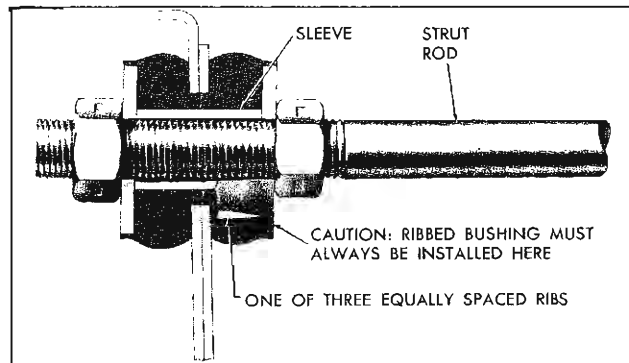

Fig. 3-27 Strut Rod Bushing Stack-up
1. Install the forward nut onto the rod. Position it about 1" from front end of threads. Install the spacer and rubber bushing with three equally spaced ribs. (Fig. 3-27).